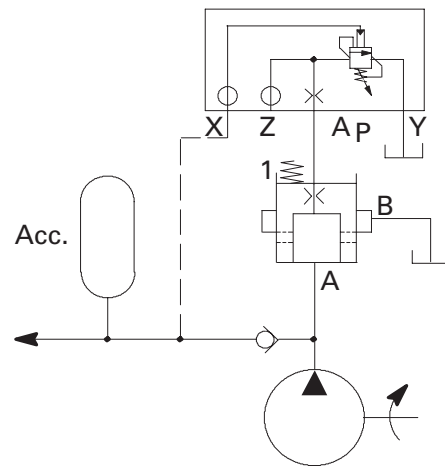

Figure 29
2. Accumulator systems, see Figure 29, where one pump section (usually the smaller) is maintained on load against its own high pressure relief valve, and the other section off/onloaded according to system demands.